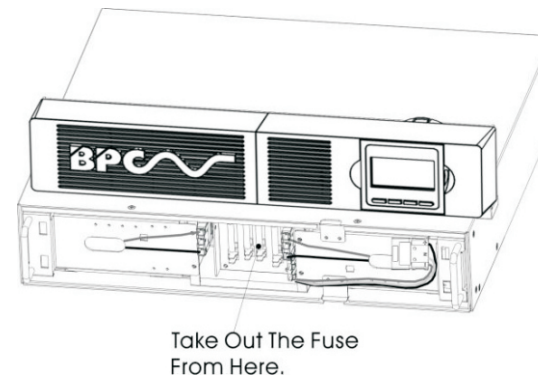

Fig.7 Replacement of fuse
6. If the fuse melting, replace it from the front. (see Fig.7)